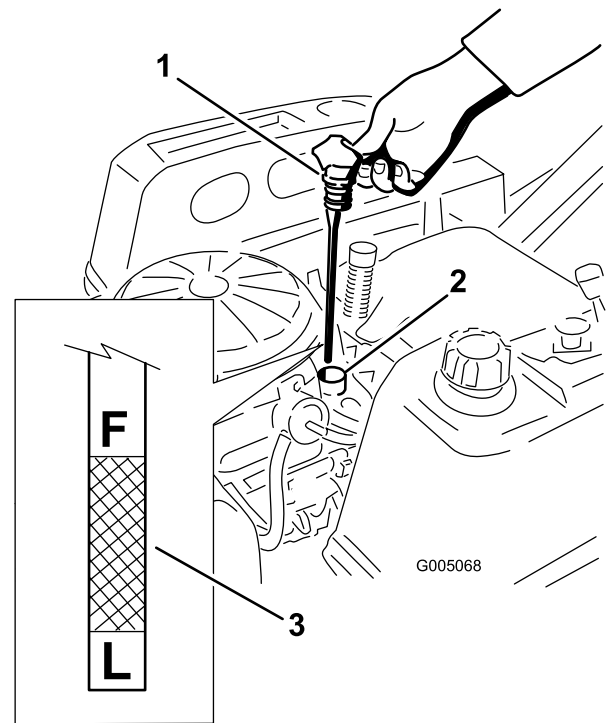
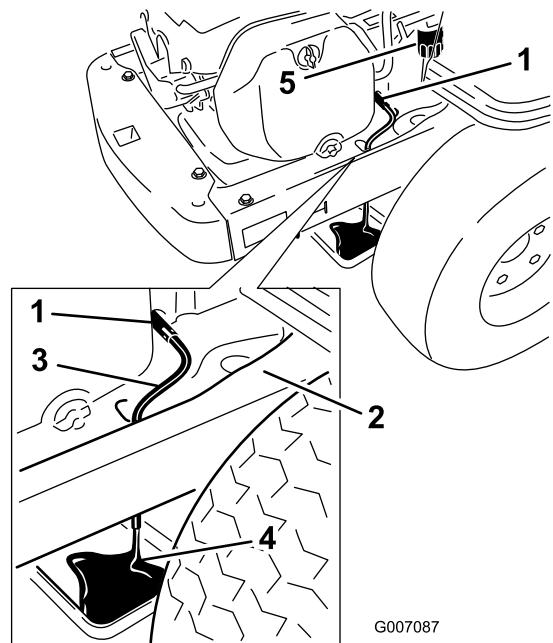

Figure 25
Figure 27
- Pull and remove the oil fill cap/dipstick; wipe oil off. Reinsert the dipstick and push firmly into place (Figure 25).
- Remove the dipstick and check the oil level. (Figure 25).
7. Place a pan underneath machine directly below the drain hole in the frame as shown in Figure 27.
8. Turn the drain valve 1/4 counter clockwise to open and allow the oil to drain (Figure 27). Remove the oil fill cap/dipstick (Figure 25).
10. Remove the old filter and wipe off the mounting pad (Figure 27).
11. When oil has drained completely, close the oil drain valve. Remove the oil drain hose and wipe up any excess oil on the frame (Figure 27).
15. Slowly pour approximately 80% of the specified oil into the filler tube (Figure 25).
16. Install the oil fill cap/dipstick and push firmly into place (Figure 25).
17. Check the oil level (Figure 25); refer to Checking the Oil Level.
19. Install the oil fill cap/dipstick and push firmly into place (Figure 25).